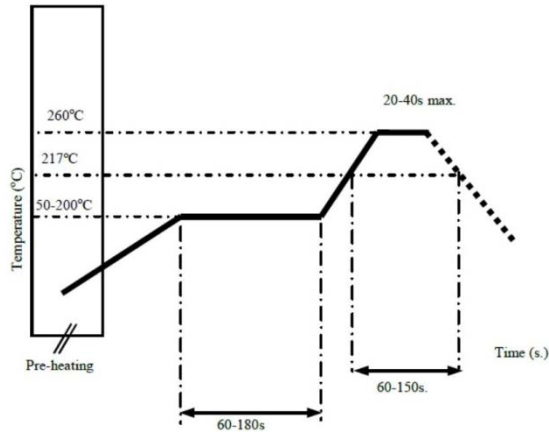
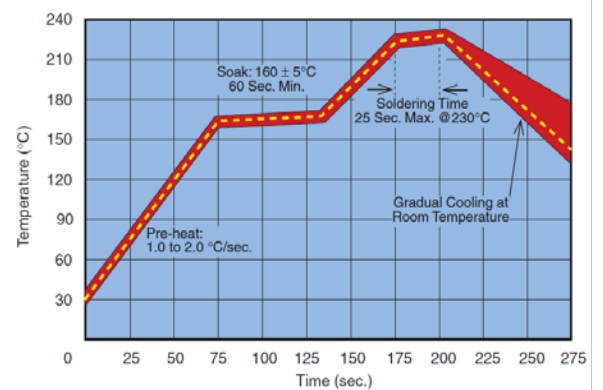

Figure 1: Solder Reflow Profile for Ceramic Capacitors and Inductors (JEDEC J-STD-020C compatible)
Figure 4: Solder Reflow Profile for LASERtrim®
*LASERtrim® Capacitors* - Offered with gold flashed nickel-barrier terminations only. Due to the unique internal construction of the LASERtrim® it is recommended that a conservative reflow temperature profile be used (Fig.4). Wave soldering is discouraged.
The general term "reflow" refers to several methods used in heating the circuit so that solder paste reflows, or "wetting" of the ceramic capacitor and PCB contacts occurs. These methods include infrared, convection and radiant heating. The size of the solder fillet may be controlled by varying the amount of solder paste that is screened onto the circuit. Recommended temperature limits and times for solder reflow are shown in Figure 1 for Ceramic Capacitors, Inductors and for LASERtrim® in Figure 4.